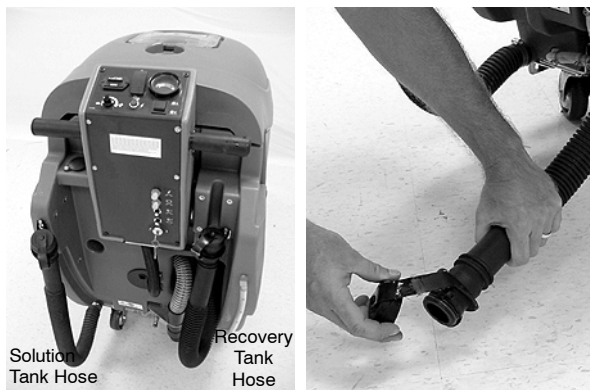

FIG. 20
2. Remove the drain hose cap and slowly lower the hose over the drain site (Figure 20). Lift the hose to stop the flow. The recovery tank drain hose is located on the right side and the solution tank drain hose is located on the left side.